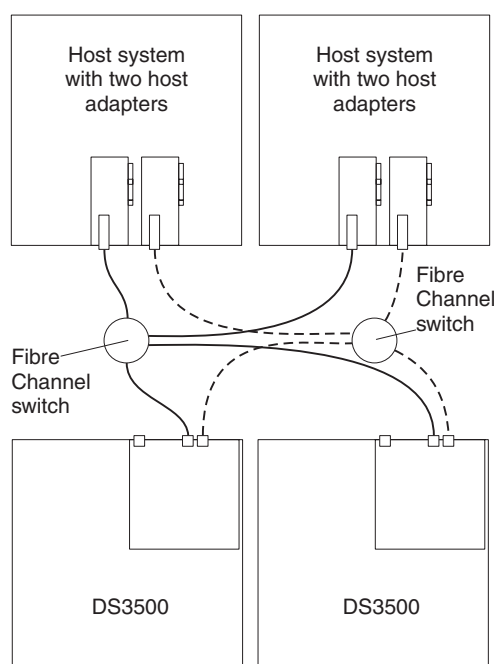

Figure 63. Example of two storage subsystems in a dual Fibre Channel SAN environment
- Two storage subsystems in a dual SAN fabric configuration, as shown in Figure 63 on page 70
In Figure 63 on page 70, the Fibre Channel switches are not connected together. Each switch forms its own SAN fabric.